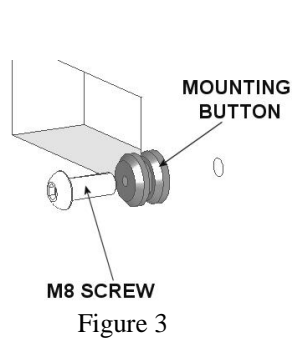
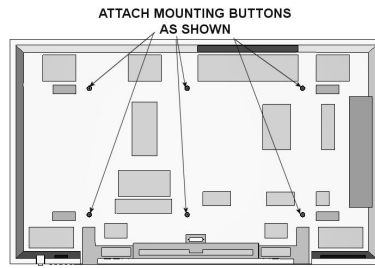

Figure 3
Figure 4
1. Attach mounting buttons to display using the appropriate, M8 x 20mm or M8 x 30mm, cap screw for each mounting button (see Figure 3 & Figure 4). A minimum thread engagement equal to the diameter of the mounting screw must be achieved in order for proper installation. (See Illustration below)